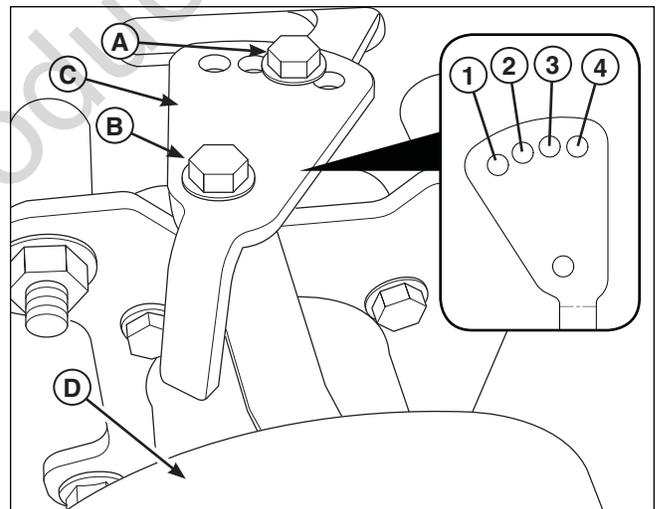

Figure 33. Adjusting the Range Selector Plate
5. Remove the range selector hardware (**A**, **Figure 33**).